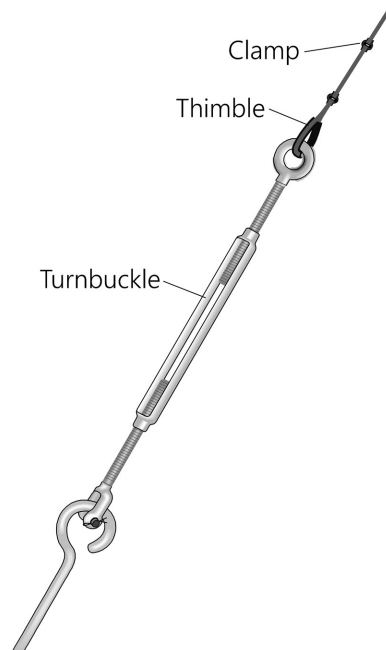

FIGURE 7-34. Guy wire/turnbuckle attached to the UTEYE anchor
5. Attach the guy wires to the anchors (FIGURE 7-34 (p. 40)). Unscrew the jaw and eye bolts until 2.5 cm (1 in) of thread extends through the turnbuckle body. Attach the jaw end of the turnbuckles to the anchors. While holding the tower plumb, attach the guy wires to the eye end of the turnbuckles by using a thimble and two clamps for each guy wire. Tighten the turnbuckles until the guy wires are snug and the tower is plumb. Do not overtighten the turnbuckles.